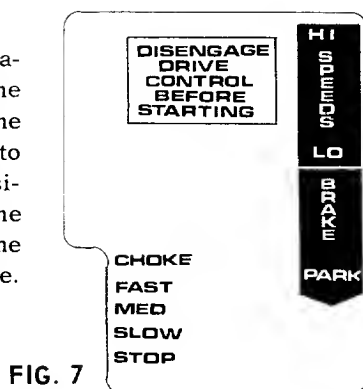

FIG. 7
Your engine has a "choke-a-matic" choke. Move the throttle control lever all the way down (See Fig. 7) to place it in the choke position. One lever operates the choke, regulates the engine speed, and stops the engine.
**STOPPING ENGINE** - Move the throttle control to STOP position (See Fig. 7).